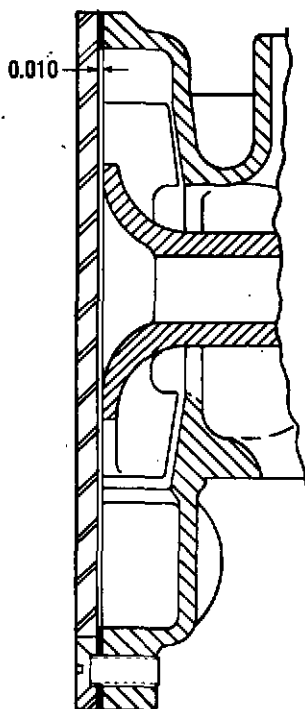

Figure 5-9. Water Pump Impeller Installation Dimensions
2. Coat the seal surface of the shaft with grease and press the shaft and bearing assembly (27) into the body. Press only on the outer bearing race and not on the end of the shaft.
3. After installing retaining ring (23), support the pump shaft on the outer shaft end and press the impeller (28) onto the shaft. There must be 0.010-inch clearance between the impeller and a straight-edge placed across the rear face of the pump body. See figure 5-9.